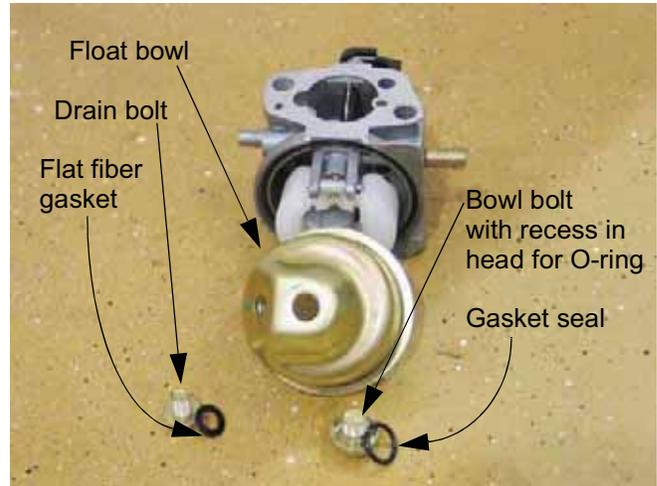

Figure 4.28
3. Remove the bowl bolt using a 10mm wrench. See Figure 4.28.